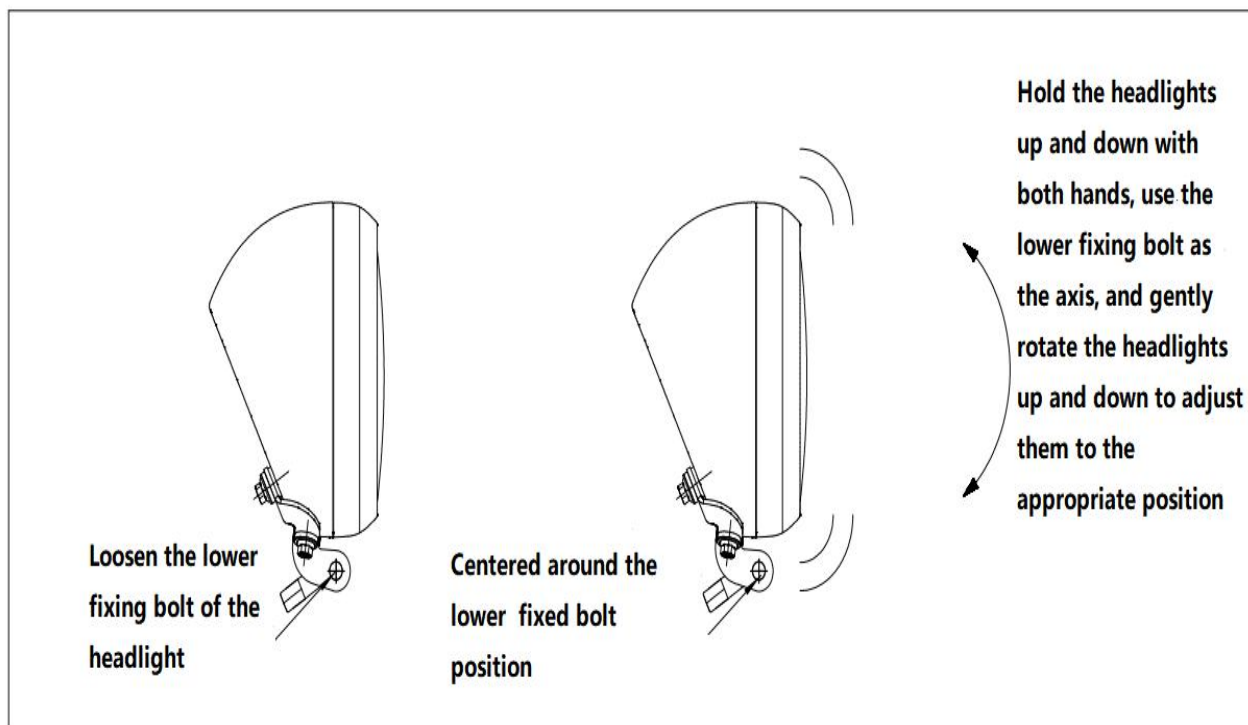

Fig9
(Fig9)
4.6 Headlight Pitch angle adjustment (Fig9)